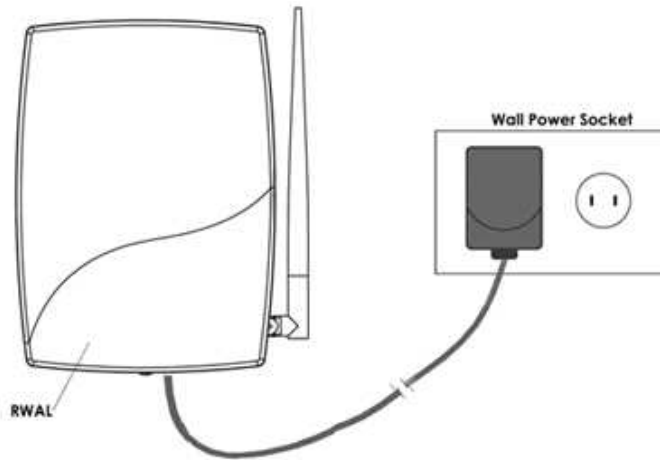

Figure 4. Connecting the RWAL to the Wall Outlet
4. Connect the RWAL to the nearest power outlet using the power adapter, as shown in the Figure 4.